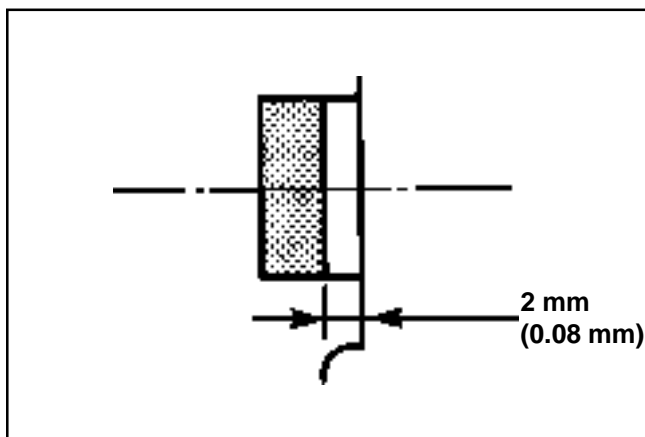

Figure 11-40. Oil Seal Installation Depth.
2. Install a new oil seal into the cover to a depth of 2 mm (0.08 in.). See Figure 11-40. Apply a light coating of lightweight lithium grease to the lip of the seal.